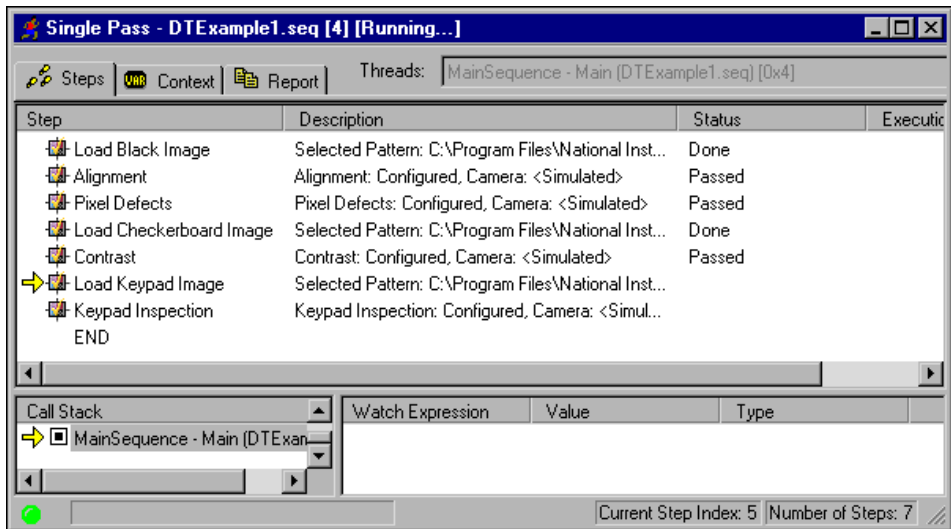

Figure 2-11. DExample1.seq Execution Window
1. Select **Execute»Single Pass**. The sequence editor opens the *Execution window*, as shown in Figure 2-11. In an Execution window, you can view steps as they execute, the values of variables and properties, and the test report when the execution completes.